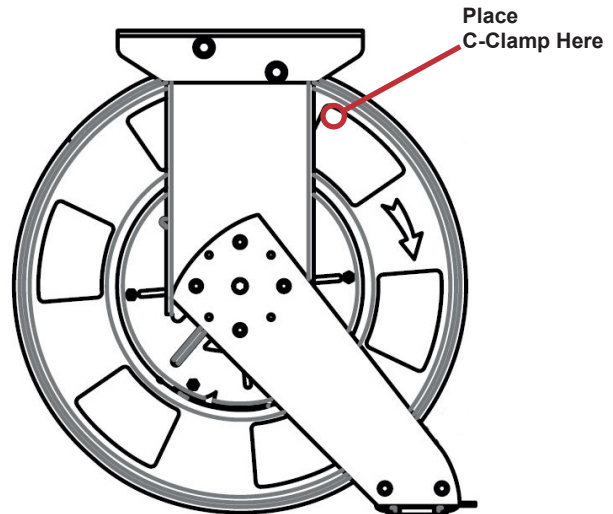

Figure 8
3. Secure spool from accidental rotation by placing a C-Clamp onto the spool. See figure 8 for proper placement of C-Clamp. This will keep the spool from rotating while installing the new service hose.